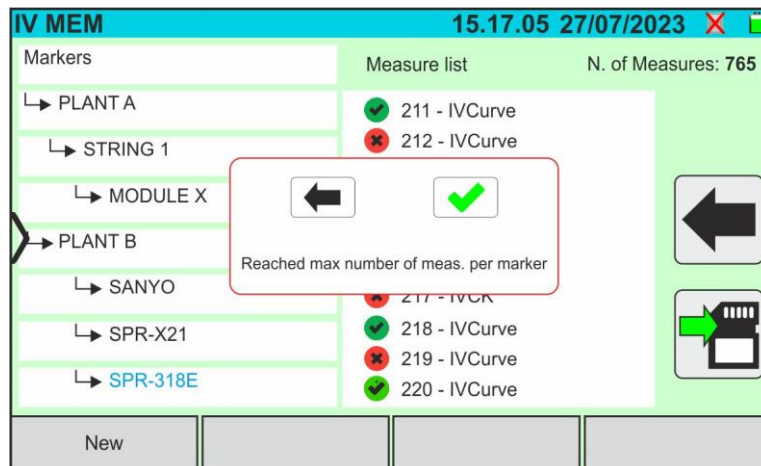

Fig. 88: Displaying results
4. Select a measurement by highlighting it in blue and tap on the "View Results" key to display it. In the case of Fig. 88, the following screen is displayed relative to the I-V curve measurement:
1. Tap on the **"Memory"** icon on the main menu to display the data (see Fig. 88)